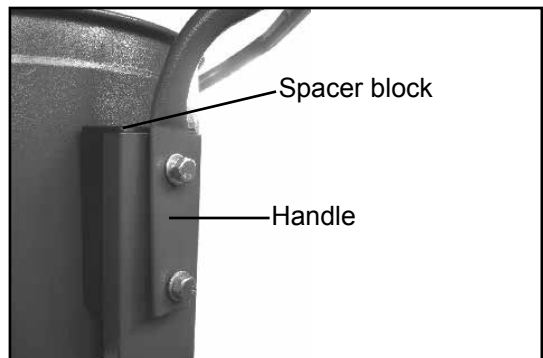

Fig. 06
2. Place the rubber gasket between both mounting flanges (Fig. 06).